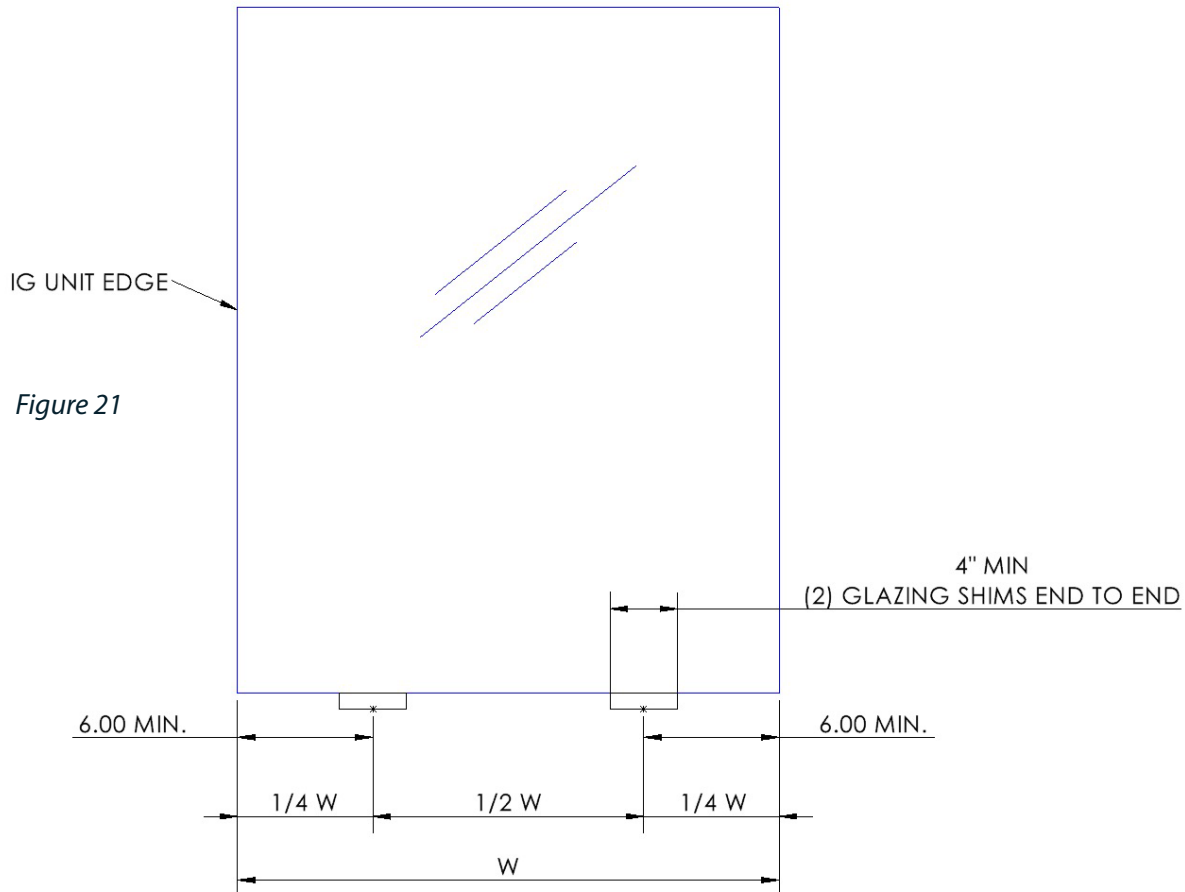

Figure 20
16. Set the Insulated Glass on two (2) pairs of setting blocks positioned at $1/4$ points in opening as shown in Figure 20. Setting blocks are not to be placed closer than 6" from the edge of glass.